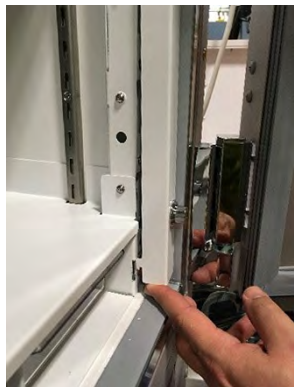

Figure 4
9. Replace the manual release cover by aligning the tabs on the cover with the slots in the bracket and slide downward to engage (*Figure 4*).